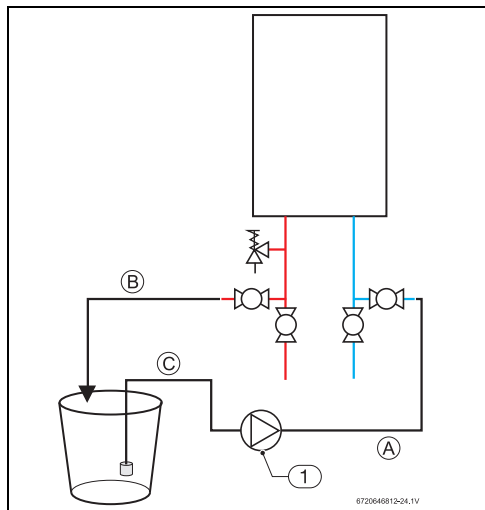

Fig. 69
- ▶ Connect a line (A) from the outlet of the circulating pump (installer supplied) to the inlet water fitting on the water heater (see fig. 69).
- ▶ Using another line (B), connect the water outlet fitting on the water heater. Route the other end of this line into a descaling reservoir.
- ▶ Using a 3rd line (C) from the descaling reservoir, connect to the inlet side of circulating pump. Install a filter on the end of the line in the descaling reservoir.